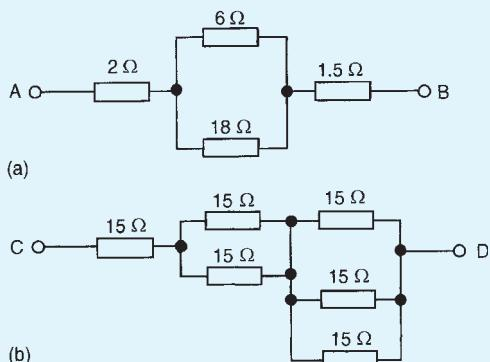

Figure 5.30
4. Find the total resistance between terminals A and B of the circuit shown in Fig. 5.30(a) [8 Ω]
5. Find the equivalent resistance between terminals C and D of the circuit shown in Fig. 5.30(b) [27.5 Ω]